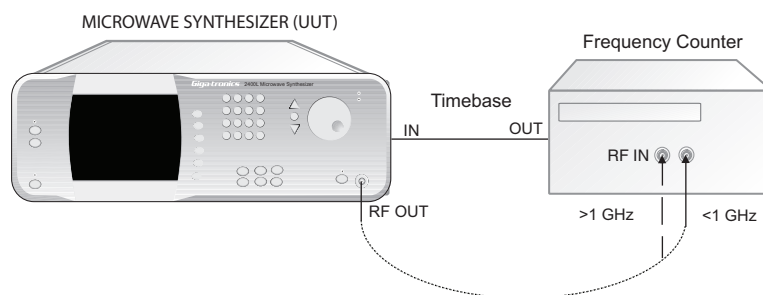

Figure 4-1: Frequency Range, Resolution & Accuracy Test Setup
1. Connect the equipment as shown in Figure 4-1. Connect the 2400 RF Output to the low frequency input using coaxial cabling and adapters as is necessary. Allow the equipment to warm up for at least 30 minutes. Because the 2400 and the counter use the same timebase, timebase errors are eliminated. The 2400 automatically switches to the external reference when it is connected.